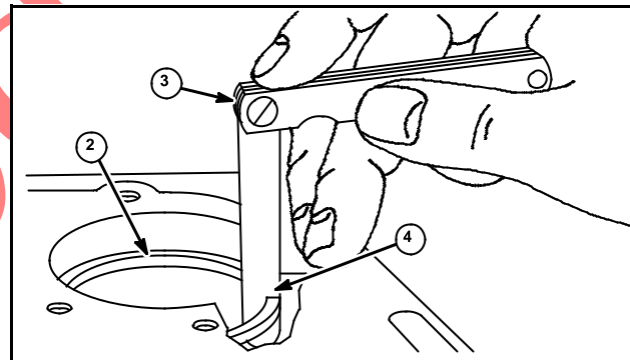

Fig. 6
1. Clean all carbon from the ends of the old piston rings (2) and from the cylinder bore.
3. Check gap with feeler gauge (3), Fig. 6. If ring gap (4) is greater than shown in Table No. 1, Page 8, the ring should be rejected.